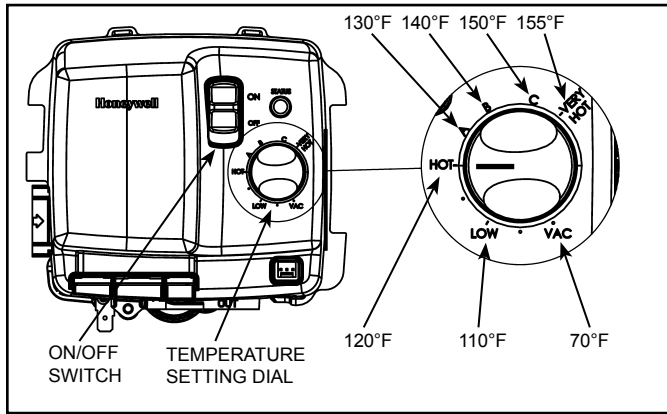

Figure 49
This water heater is equipped with an adjustable thermostat to control water temperature (see Figure 49). Hot water temperatures required for automatic dishwasher and laundry use can cause scald burns resulting in serious personal injury and/or death. The temperature at which injury occurs varies with the person's age and time of the exposure. The slower response time of children, aged or disabled persons increases the hazards to them. Never allow small children to use a hot-water tap, or to draw their own bath water. Never leave a child or disabled person unattended in a bathtub or shower.
The thermostat settings on the gas control valve are shown in Figure 49.
1. Turn the thermostat on the gas control to the lowest setting. If the heater is running, wait for it to shut down (see Figure 49).